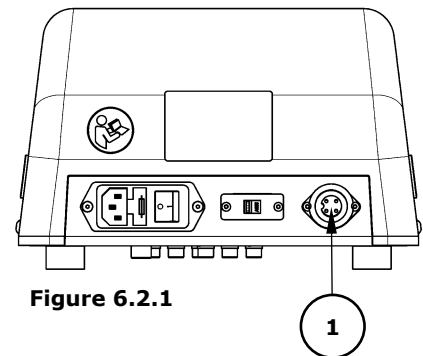

Figure 6.2.1
1. Insert the coded connector plug of the foot switch into socket 1. See Figure 6.2.1.